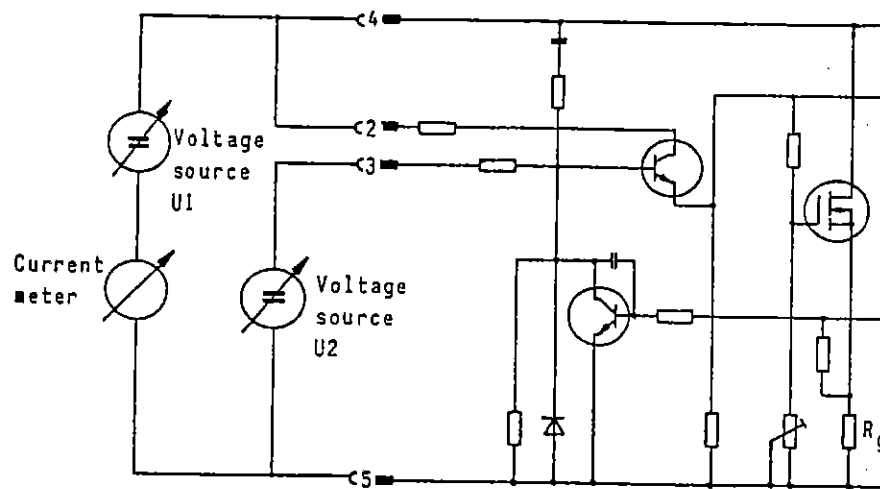

Fig. 4: Procedure for Power Unit Adjustment
An power unit is only necessary if one or more power transistors have been changed. However, ensure that power unit transistors are replaced only with genuine R&S spare parts, otherwise correct functions and adjustment procedures cannot be guaranteed. As the power unit has to be dismounted for power transistor exchange, it is useful to adjust it before reinstallation. For this procedure see the installation scheme shown in fig. 4 (first both output stage halves have to be wired completely).
- Short-circuit proof power supply unit with an output voltage rating of approximately 10 V, its current limit responding to 1.5 times of the NGPV nominal current (in fig. 4 marked with "U1").
- Power supply with a minimum output current rating of 100 mA, an output voltage adjustable from 0 up to approximately 15 V (in fig. 4 marked with "U2").